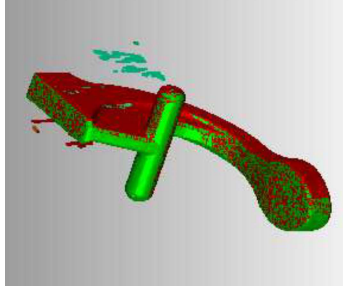

Figure 35
7. When using **1-Point Registration**, registration will start automatically when the second point is picked. If you have performed a successful registration the bottom window will update to show the aligned scans with overlapping data as shown in **Figure 35**.